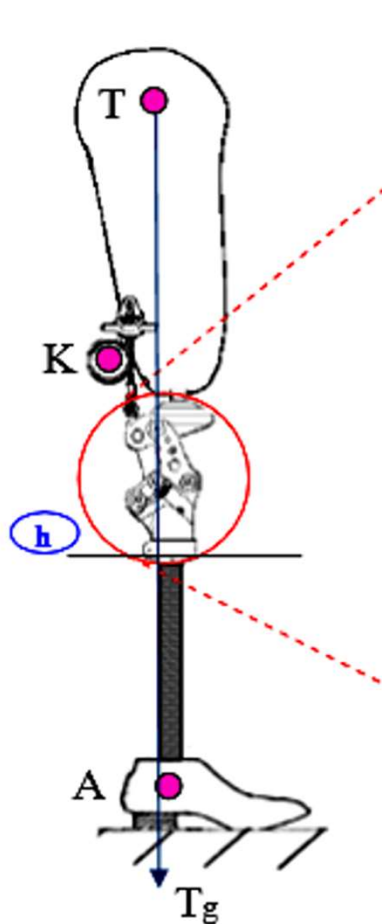
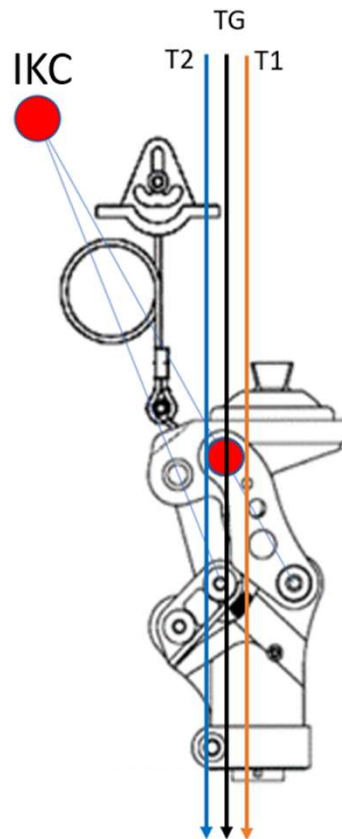

Fig. 2
Fig. 3
Note: 4-bar knees inherently are very stable due to the geometry built into each design. This is commonly referred to as the Instant Knee Center (IKC). The IKC point when doing bench alignment, will fall behind the traditional TKA line that we will reference. (Fig. 2,3) Tg line in Fig. 3 is ideal placement, but in certain instances, it may be necessary to accommodate placement anteriorly (into the T1 zone up to 2mm), or posteriorly (into the T2 zone up to 2mm). The Tg line is referencing a moving weight bearing line, so it could be in T1, neutral, or in T2 zones.
a) With prosthesis assembled, taking into account hip flexion contractures, abduction, Line Of Progression, and toe out (Fig.2), the TKA plumb line should pass through the knee center (at the proximal/anterior pivot – red dot pivot Fig.3) and in front of the K point (IKC). Take into account shoe heel height, and add 3mm safety factor.
d) The weight line for Sagittal or A/P plane should have the plumb line passing through T (Tg) line. Ideally, Tg line should pass through the knee center (red colored pivot) and be perpendicular to the ground. (Fig. 3)
e) **When to use ZONE 1 option** - For the higher weight spectrum patients, Tg line should pass slightly into the “Zone I” area (up to 2mm), which is indicated as up to “T1” (Fig. 3) so that it will reduce stance flexion moment forces of the 5th bar. It is recommended to have controlled stance flexion action of the 5th bar, and not to lock it out or have excessively long duration of it. Excessive stance flexion moment and/or duration can be adjusted through tightening the “Flexion Control Adjusting Screw” in, and/or adjusting alignment (of socket and/or foot) into the T1 zone (up to 2mm). The goal is to have smooth transition from stance flexion to neutral mid-stance motion, and not excessive stance flexion duration.
f) **When to use ZONE 2 option** - For the lighter weight spectrum patients, such as women and children, Tg line should pass slightly into the “Zone II” area (up to 2mm), which is indicated as up to “T2” (Fig.3) so that it will increase stance flexion moment forces of the 5th bar linkage. It is recommended to have controlled stance flexion action of the 5th bar, and not excessively short duration, or abrupt motion of it. Excessive short stance flexion moment and/or duration can be adjusted through loosening the “Flexion Control Adjusting Screw” out, and/or adjusting alignment (of socket and/or foot) into the T2 zone (up to 2mm). The goal is to have smooth transition from stance flexion to neutral mid-stance motion, and not abrupt motion or excessively short stance flexion duration.
It is highly recommended that Tg line should ONLY pass through the "Red Dot". (Fig. 3)